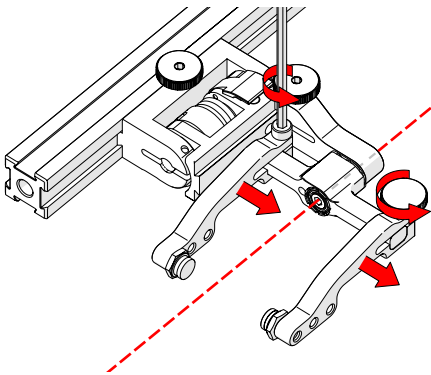

Fig. 91 - Adjust probe holder arms
5. Loosen the probe holder arm adjustment knob (Fig. 91) and remove the outer probe holder arm from yoke.
6. Adjust the inner probe holder arm as required to best centre the probe on the yoke's pivot axis (Fig. 91).
TIP: The probe holder yoke can accommodate many different probe and wedge sizes of varying widths. It is best to centre the wedge with the yoke's pivot axis to reduce wedge tipping when scanning. Position the inner probe holder arm accordingly with the centre of the yoke (Fig. 91).